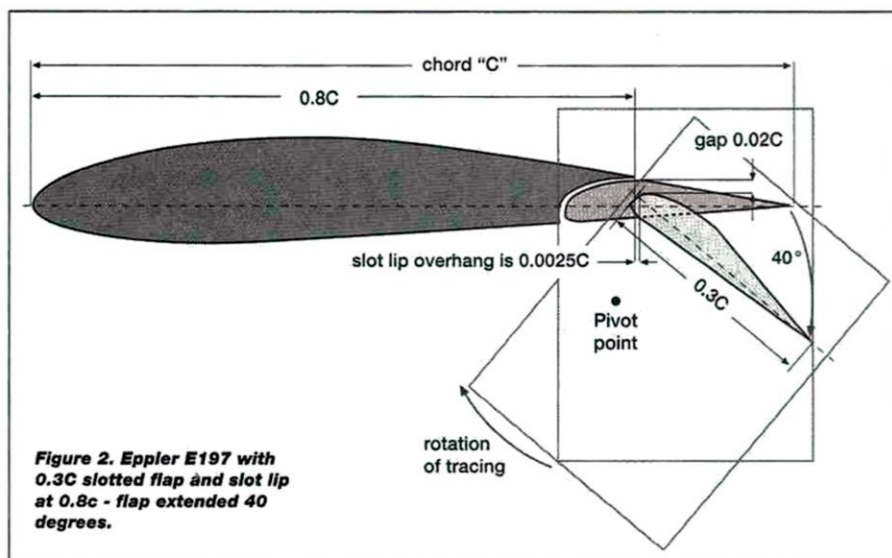

Figure 2. Eppler E197 with 0.3C slotted flap and slot lip at 0.8c - flap extended 40 degrees.
The solution is to advance the slot-lip, as in Fig. 2, providing a flap of adequate thickness, at least equal to the parent airfoil's thickness in percent of its chord. The E197 airfoil is 13.42 percent in thickness/chord ratio.
Fig. 2 shows the E197 airfoil with 0.3c flap and slot-lip at 0.8 chord, with the flap deployed 40 degrees.
Place this tracing exactly over the flap in the "up" position in Fig. 2. By trial and
error, (using a pin as a pivot), rotate the tracing clockwise to locate that point where the tracing matches the flap location exactly both "up" and "down." Mark this point clearly on the drawing as in Fig. 2.
You can observe this effect by holding full control in one direction and flipping the dual-rate switch on and off. As you do, you'll see the control jump between full travel and the amount of travel reduction set by the dual rate. This idea is illustrated in Figure 2.
**Figure 2.** To see the effect of dual rate, hold full stick, and flip the dual-rate switch back and forth. The control (aileron shown here) will jump between full and reduced travel as the switch flips.